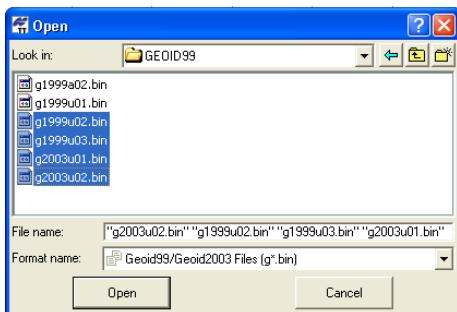

Figure 2-27. Open and Add Geoid List
2. On the **Open** dialog box, navigate to the location of the geoids list and click **Open** to add the new geoid model to the Topcon Tools geoids list (Figure 2-27 on page 2-18).